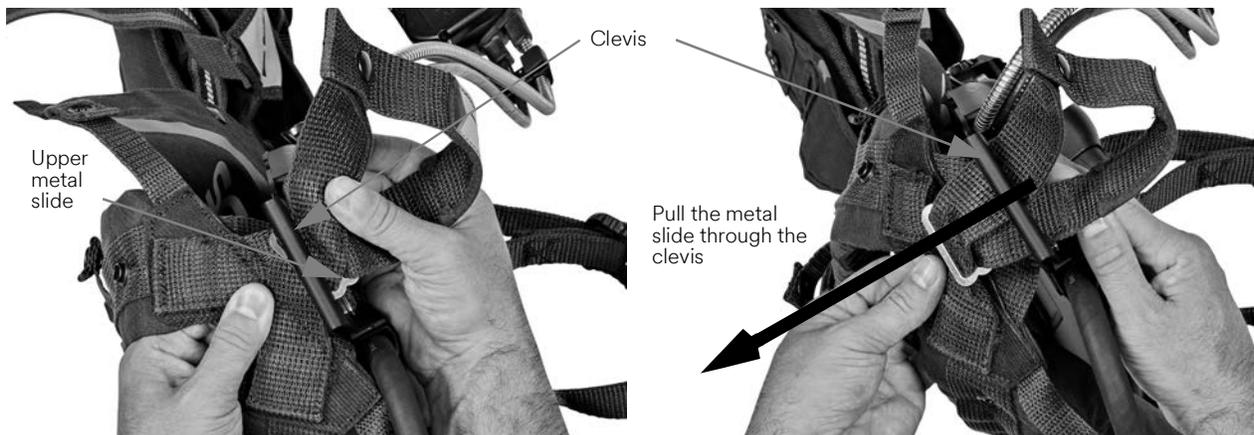

Figure 2-7 Pulling the upper metal slide through the clevis
- 8 Flatten the upper metal slide at the base of the drag rescue loop and pull the slide through the upper slot of the clevis (metal connector at the top of the backframe). See Figure 2-7.